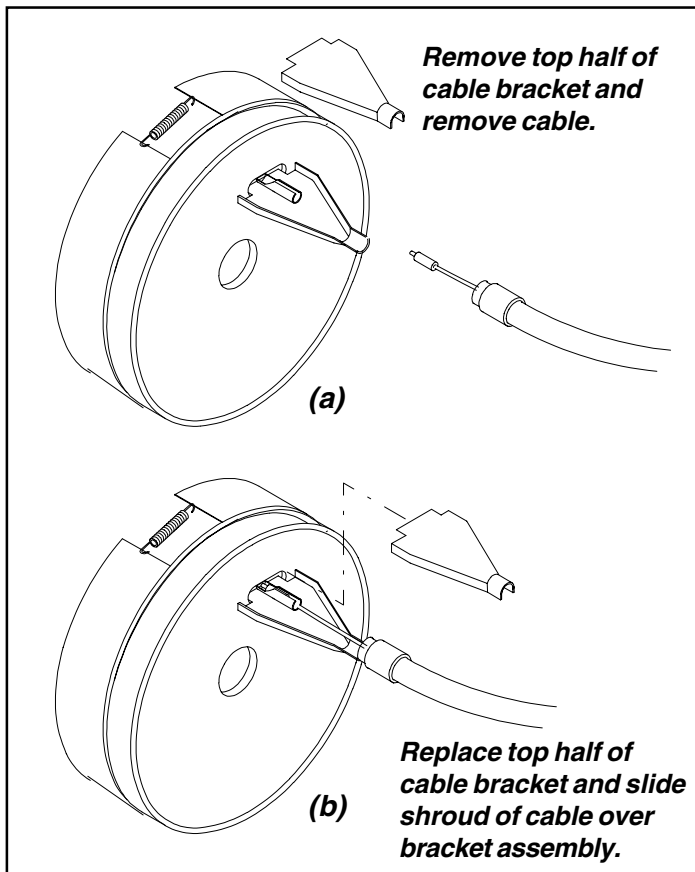

Figure 4-14: Replacing Brake Cable
2. To change the cable, slacken and drop cable end from the Equalizer plate (Fig. 4-13 item 3) and detach cables from drum as shown in Figure 4-14 (a) .